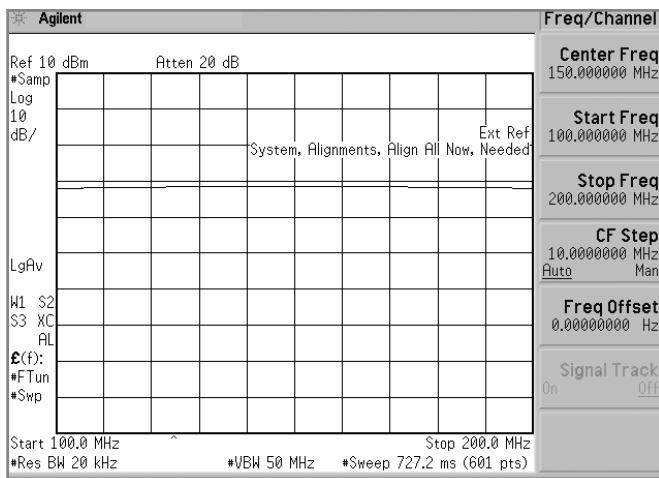

Figure 14. Measuring mixer output with the reverse sweep
- [Return], toggle {Amplitude} to underline “On”. See the mixer output as shown in Figure 14.